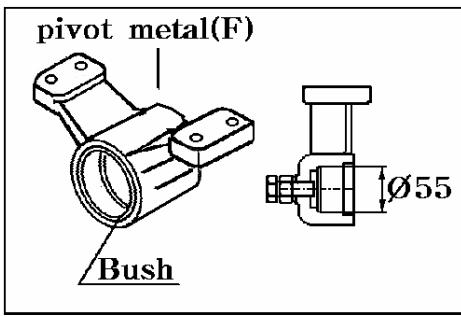

Fig.6-8
- The shim of the roll bush should reach position as shown Fig.6-8. In other words the seam should be in a position which is free from any load.